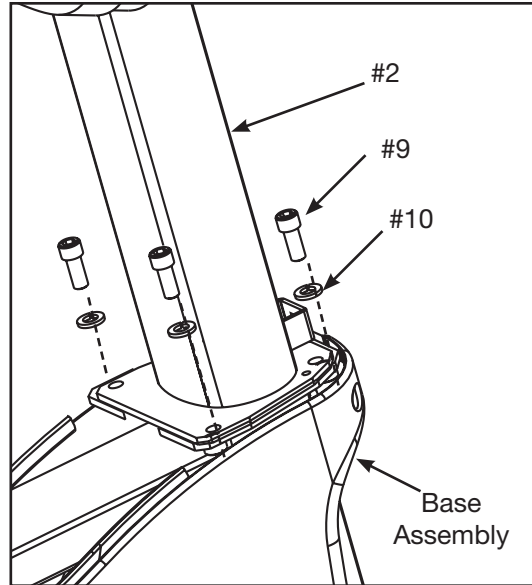

Figure 6
- D. Lower the console assembly over the upper display cable and hold it steady in the correct position on the base assembly. See Figure 6.
- E. Using a 1/4" Allen wrench (#15), attach the console assembly (#2) with the four screws 5-16-18 x .75 (#9) and four washers 5-16" (#10). See Figure 6.